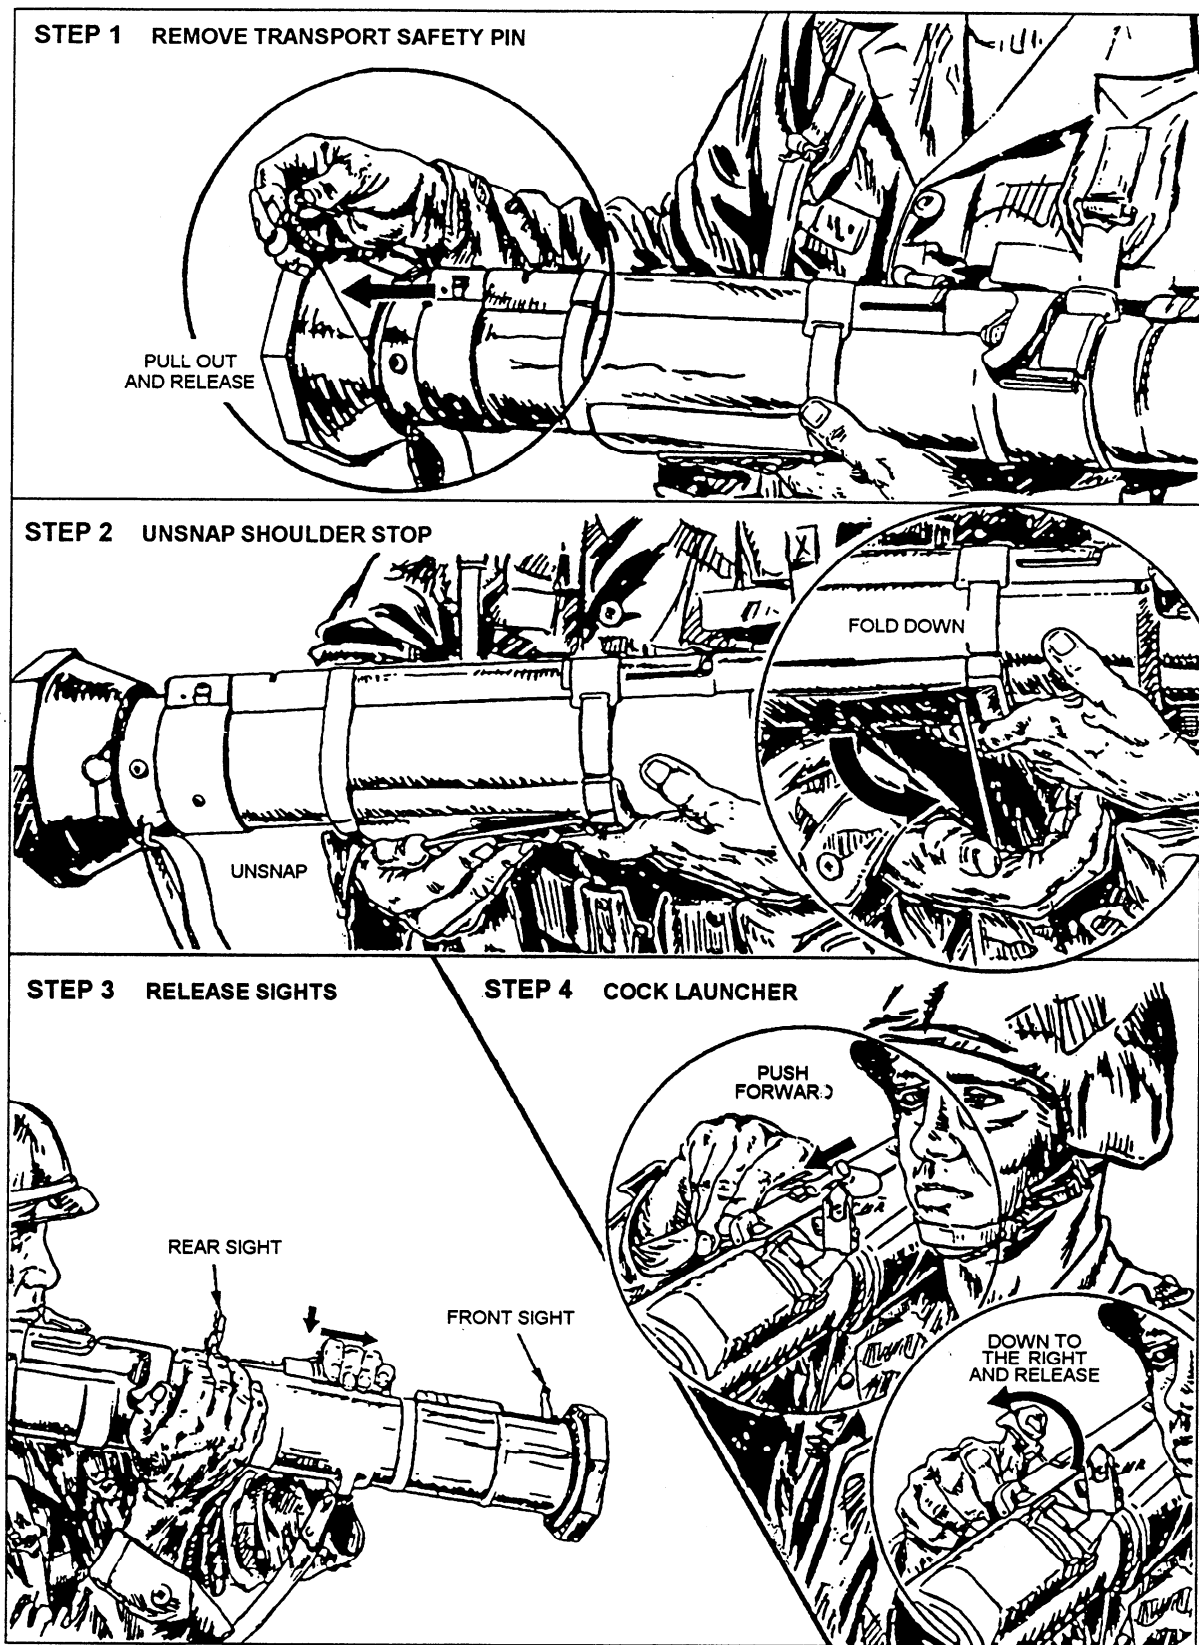

Figure 14-31.—Preparation for immediate firing.
- Remove the transport safety pin by pulling it out with your right hand and releasing it (Step 1, fig. 14-31).
- Unsnap the shoulder stop and unfold it (Step 2, fig. 14-31).
- Release the sights. Release the front sight by pressing down on the sight cover and sliding the cover to the rear. Release the rear sight by pressing down on the rear sight cover and sliding the cover to the front. Each sight pops up after release procedures (Step 3, fig. 14-31).
- Cock the launcher (Step 4, fig. 14-31) by unfolding the cocking lever with your right hand. Place your thumb under the cocking lever and, with the support of your fingers in front of the firing mechanism, push the cocking lever forward and then downward to the right. Let the cocking lever slide back